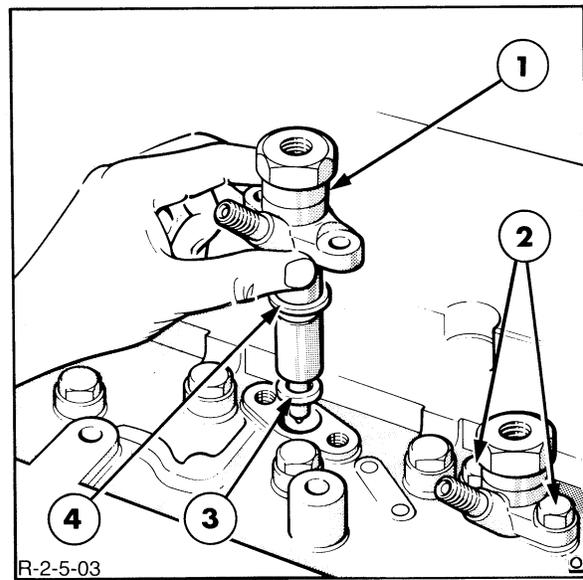

FIGURE 1-22
- Install the injectors with new seat washers and cork seals, Figure 1-22, torquing the mounting bolts to 17 ft. lbs. (23 N·m).